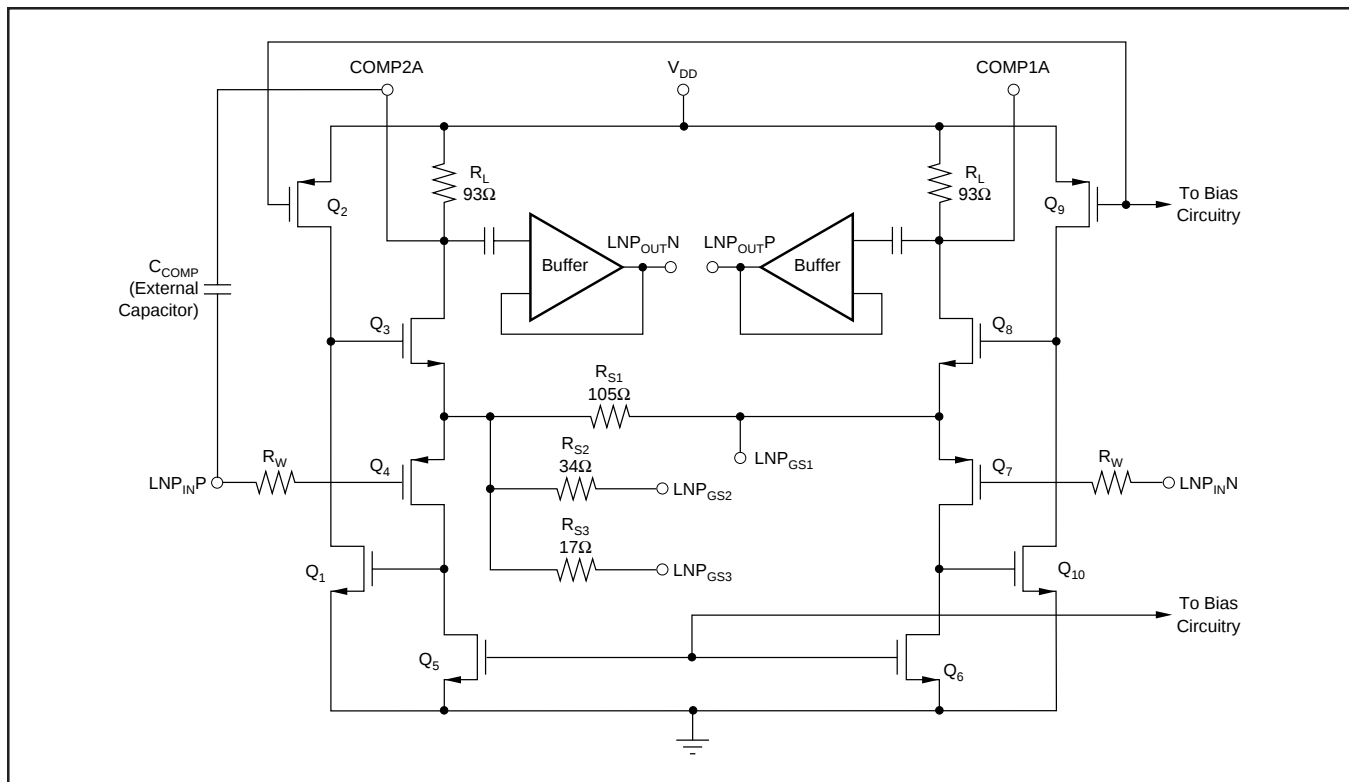

FIGURE 4. Schematic of the Low Noise Preamplifier (LNP).
The LNP is designed to achieve a low noise figure, especially when employing active termination. Figure 4 is a simplified schematic of the LNP, illustrating the differential input and output capability. The input stage employs low resistance local feedback to achieve stable low noise, low distortion performance with very high input impedance. Normally, low noise circuits exhibit high power consumption due to the large bias currents required in both input and output stages. The LNP uses a patented technique that combines the input and output stages such that they share the same bias current. Transistors Q_4 and Q_5 amplify the signal at the gate-source input of Q_4 , the +IN side of the LNP. The signal is further amplified by the Q_1 and Q_2 stage, and then by the final Q_3 and R_L gain stage, which uses the same bias current as the input devices Q_4 and Q_5 . Devices Q_6 through Q_{10} play the same role for signals on the -IN side.
It is also possible to create other gain settings by connecting an external resistor between LNP G_{S1} on one side, and LNP G_{S2} and/or LNP G_{S3} on the other. In that case, the internal resistor values shown in Figure 4 should be combined with the external resistor to calculate the effective value of R_S for use in Equation (1). The resulting expression for external resistor value is given in Equation (2).
where R_{EXT} is the externally selected resistor value needed to achieve the desired gain setting, R_{S1} is the fixed parallel resistor in Figure 4, and R_{FIX} is the effective fixed value of the remaining internal resistors: R_{S2} , R_{S3} , or $(R_{S2} \parallel R_{S3})$ depending on the pin connections.
For greatest flexibility and lowest noise, the user may wish to shape the frequency response of the LNP. The COMP1 and COMP2 pins for each channel (pins 10 and 11 for channel A, pins 26 and 27 for channel B) correspond to the drains of Q_3 and Q_8 in Figure 4. A capacitor placed between these pins will create a single-pole low-pass response, in which the effective R of the RC time constant is approximately 186Ω .